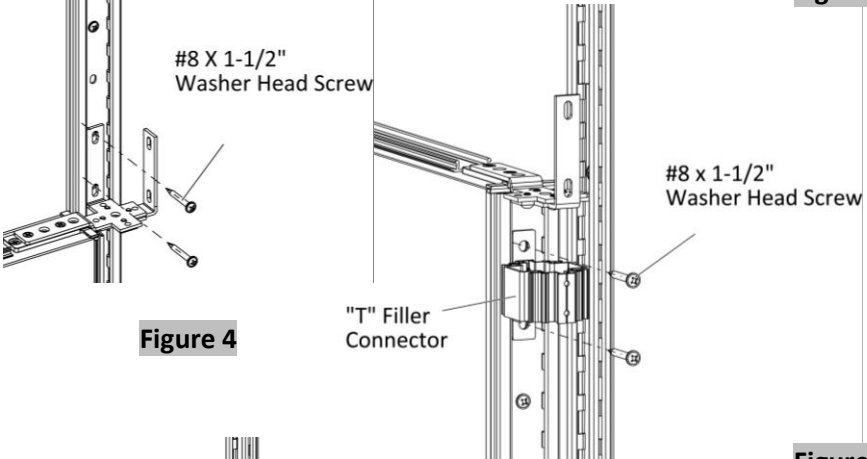

Figure 6
- Position the "T" filler connector at the desired location, (Figure 6).